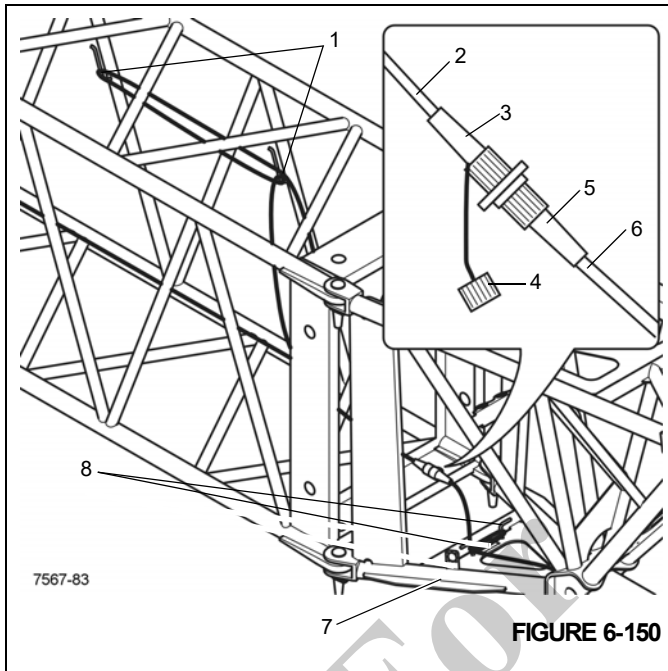

FIGURE 6-150
1. Unwind the cable (2), (Figure 6-150) from the holder (1), (Figure 6-150).
2. Remove the cap (4), (Figure 6-150) off the socket (3), (Figure 6-150).
3. Unwind the cable (6), (Figure 6-150) from the holder (8), (Figure 6-150).
4. Remove the bridging plug (5), (Figure 6-150) from the dummy socket (7), (Figure 6-150) and plug it into the socket (3), (Figure 6-150).
5. Wind up the cable (8), (Figure 6-150) far enough on the holder (7), (Figure 6-150) so it will not be damaged during operation.
6. Wind up the cable (2), (Figure 6-150) far enough on the holder (1), (Figure 6-150) so it will not be damaged during operation.